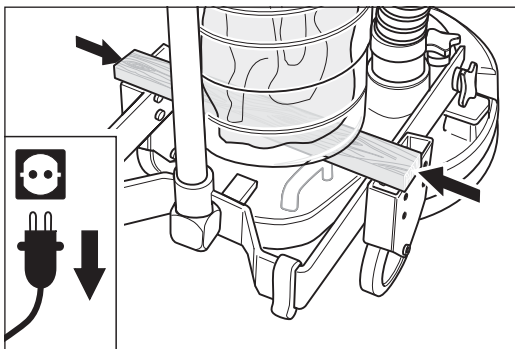

Fig. 66 Place a board between the closed dust bag box and the chassis.
- 6** Put a approx. 2 cm (0.8") thick board (e.g. piece of parquet flooring) between the closed dust bag box and the chassis (fig. 66) to prevent the dust bag box from falling off when the upper part of the separator is removed.